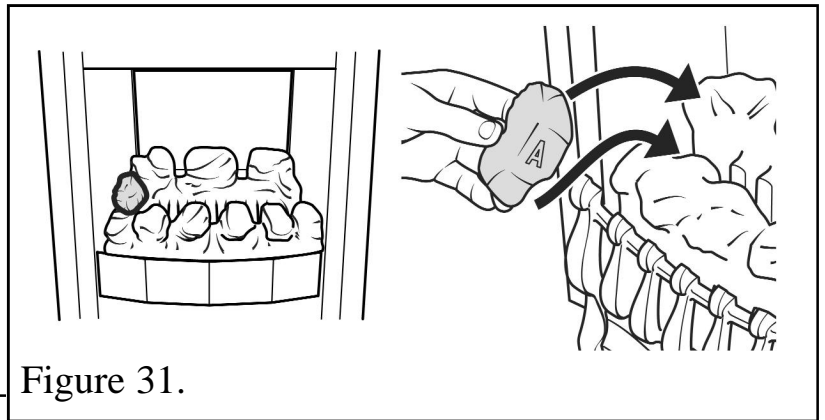

Figure 31.
3. Place a type “A” coal between the front and rear base coals with the letter “A” upright and so that the coal is against the left side of the firebox (See figure 31).